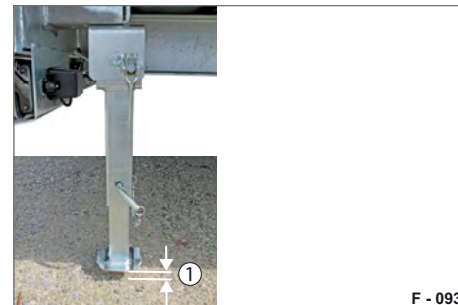

Fig. 61 Support feet adjusted
- ▶ Check after folding down and if necessary adjusting the folding supports that there is still an air gap (Fig. 61/1) between the ground and the levelling foot plate.